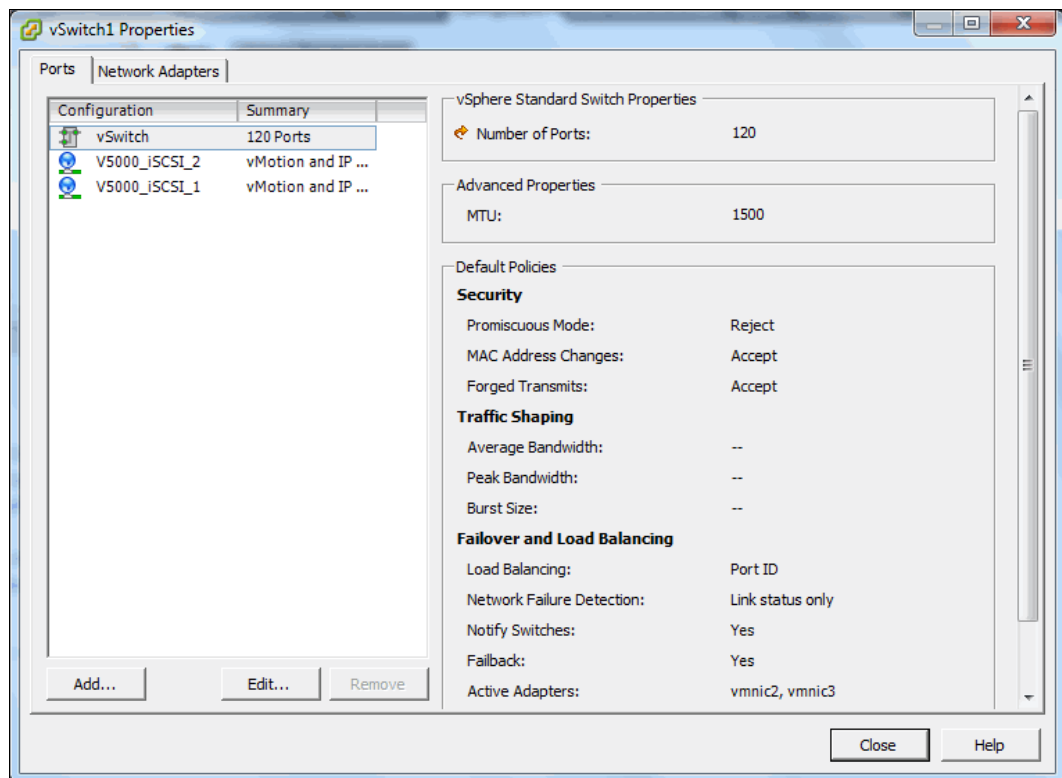

Figure 5-33 View the vSwitch properties with listed VMkernel ports
1. Browse to the **Configuration** tab and select **Networking**. Click **Properties** next to the vSwitch that you configured for iSCSI to open the window that is shown in Figure 5-33.